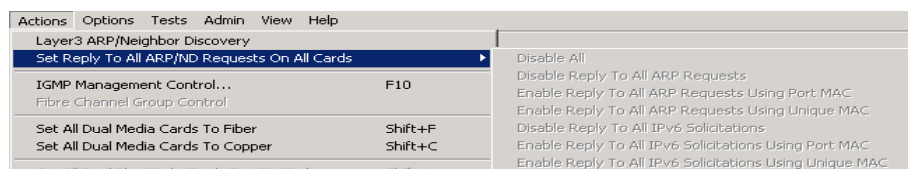

Figure 5-27. ARP Requests/Solicitations Global Dialog
- 1 The enabling or disabling replies to ARP requests and solicitations are completed at a port level through the *Port Setup...* window or through the *Actions* menu. For an explanation of how to use the *Port Setup...* window for these procedures, see “*To define receive properties of solicitations for IPv6:*” on page 180 and “*To define receive properties of ARP requests for IPv4:*” on page 188. To use the *Actions* menu, select **Actions > Set Reply To All ARP/ND Requests on All Cards**. (Refer to *Figure 5-27*.)